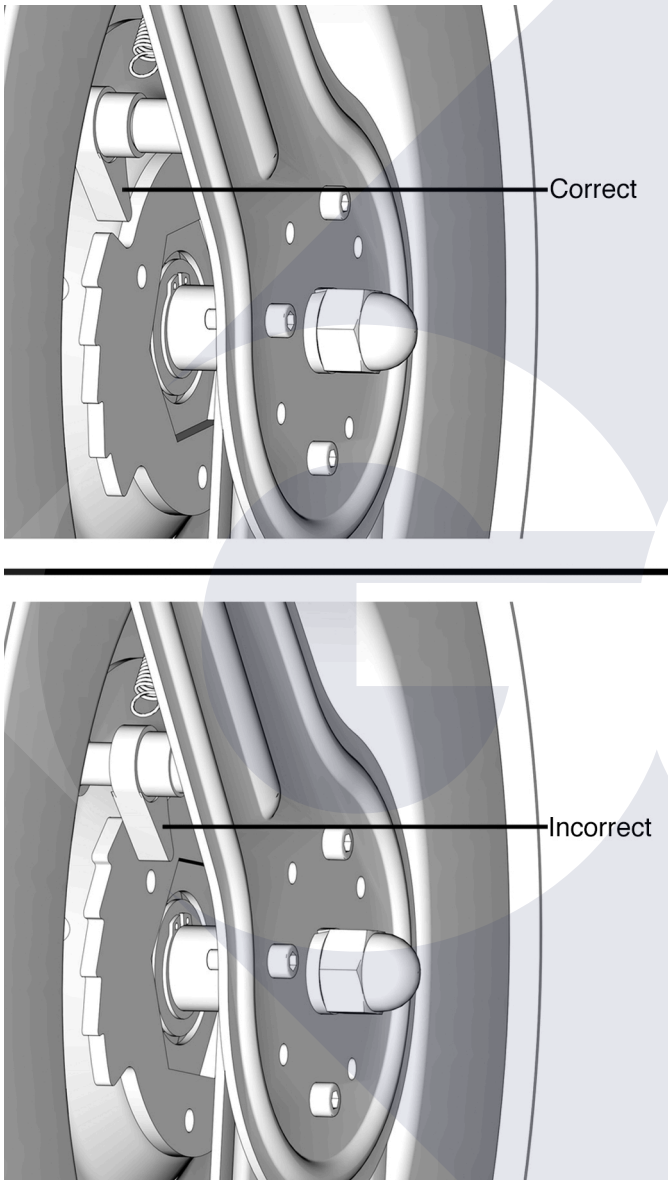

FIG. 6
- d. Check the pawl to make sure it is not wedged on the side of the ratchet (FIG. 6).